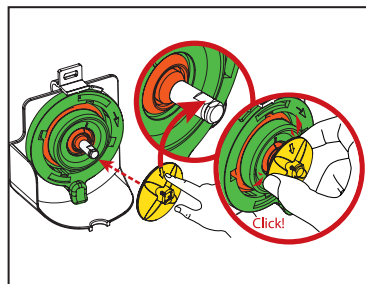

Fig.3
2. Replace the mounting plate on the mixer motor and shaft. Make sure to align the arrow on the whipper towards the flat surface on the shaft. Press the whipper onto the shaft until it "clicks" into position. (See Fig.3)